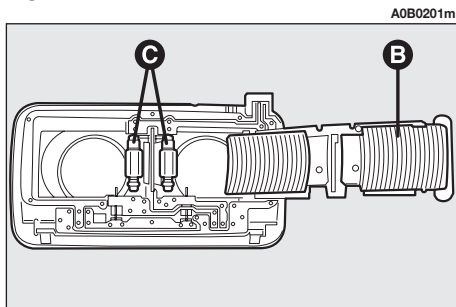

fig. 53
- Open the cover (**B-fig. 53**).
- Replace the bulb concerned (**C-fig. 53**) by pulling it outwards and freeing it from the lateral contacts ensuring that the new bulb is correctly fitted between the contacts.